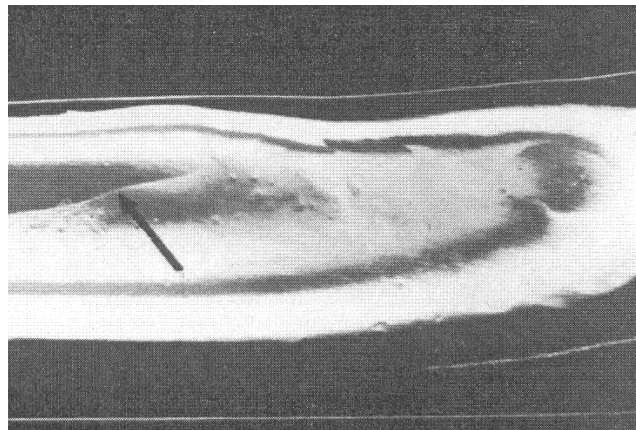
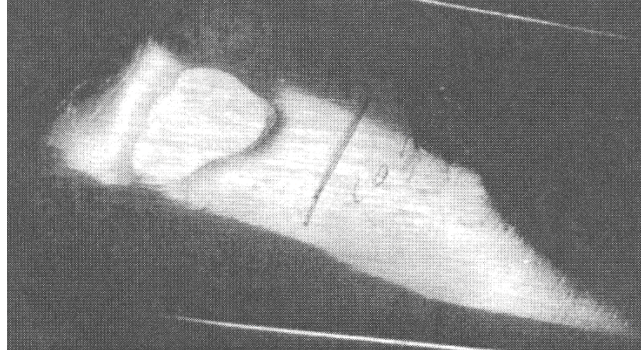

Fig.9-12. As with lakes, waves are caused by a hot die. Changes in the application of release material can sometimes reduce both waves and lakes.
Fig. 9-13. Lakes are often apparent only after buffing the surface. Lakes are usually the result of excessive die temperature.
**Wave or Lake.** Irregular lines or slight steps on otherwise smooth casting surfaces, as shown in Fig. 9-12 and Fig. 9-13 are usually caused by excessive die temperature in the area of the defect. Increasing the flow of die cooling water or increasing the water dilution of the die release material will reduce such defects.